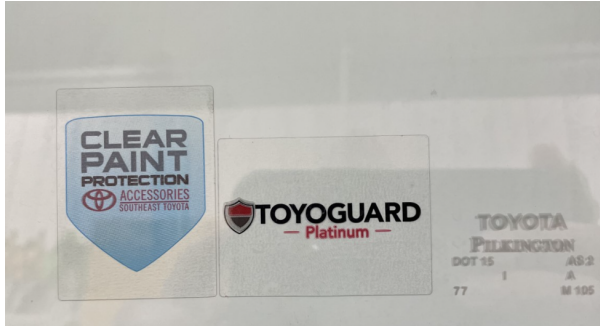

Fig. 5
2. Place information card in the center console. Stickers must be free of bubbles and cannot overlap each other or factory etch. Check for defects in the sticker itself. Fig. 5 & 6.